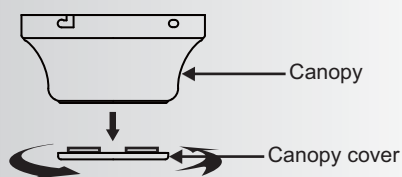

Fig. 9
Step 1. Remove the decorative canopy cover from the canopy. (Fig. 9)